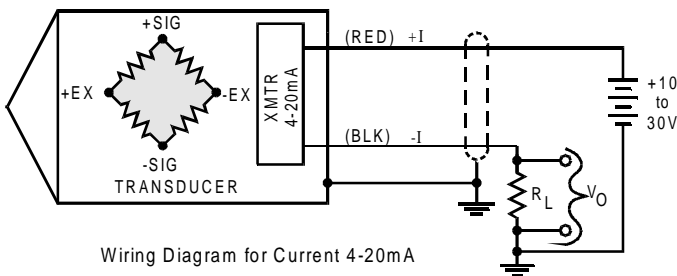

Figure 1
The Model 6001 Scale has a fifteen (15) foot long, two (2) conductor shielded, #22 AWG stranded cable. The two (2) wires are red and black. The red wire is positive and the black wire is negative. Figure 1 shows the wiring diagram.
NOTE: Incorrect wiring of the power leads (red and black) on the scale, for short periods of time, will not damage the circuitry (see Figure 1).